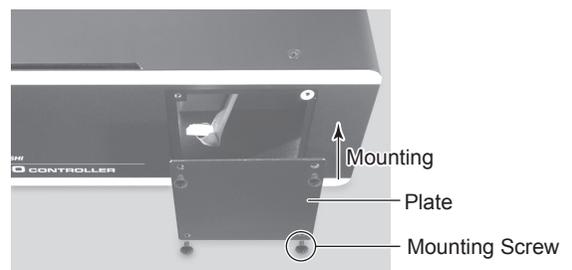

Fig. 24
- (5) Mounting the Plate using the 4 mounting screws. (Fig. 24).